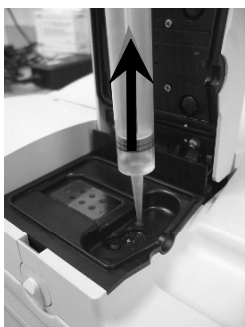

Fig. 7-54 Aspirate from rear SMC Port
3. Attach service syringe to the rear SMC port and gently pull (Fig. 7-54). Clear buffer should be aspirated, with little or no bubbles. If the line is blocked, follow the blockage removal procedure (7.3.2).